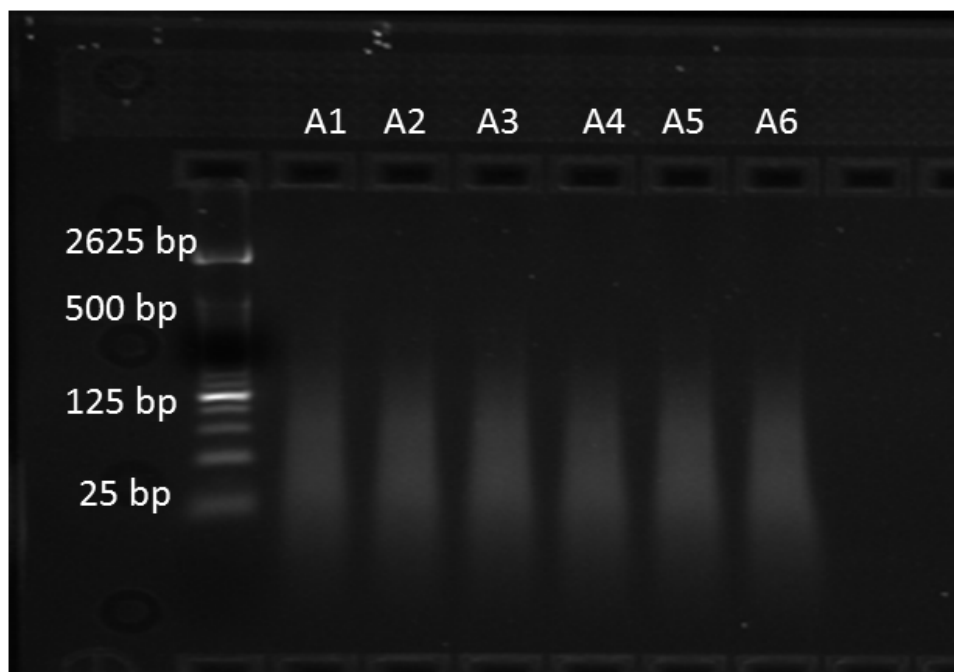
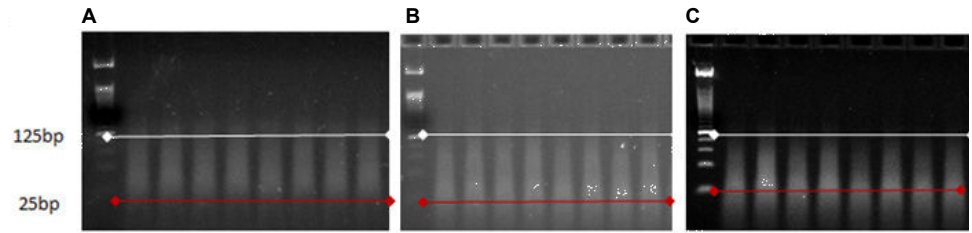

Figure 23 Example fragmentation gel image on 4% gel.
Figure 24 Examples of good fragmentation gels: Passing performance besides variability in smear patterns.
8. Follow manufacturer's instructions and run on 4% agarose gel to meet requirements (Figure 23 and Figure 24).